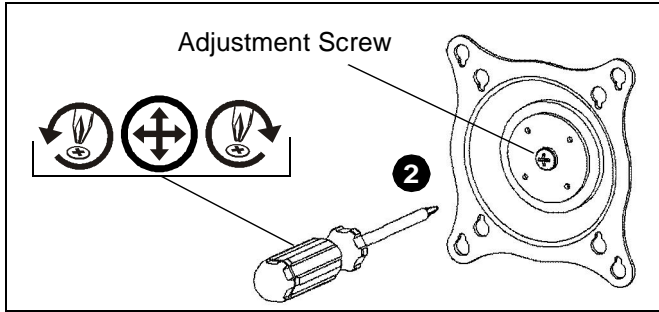

Figure 10
- Using Phillips screwdriver, slightly loosen or tighten the adjustment screw as necessary (See Figure 10).